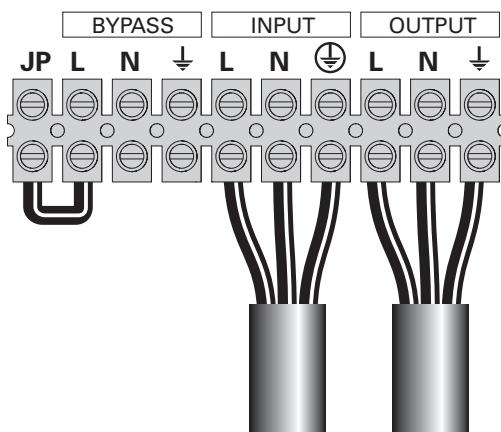

Figure 17.
- 1 - Make sure the metal jumper is connected (see figure 17).